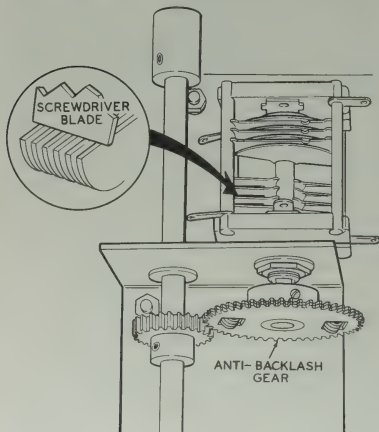

Figure 5
- () Loosen the setscrew in the small brass gear of the variable capacitor assembly. Refer to Figure 5.
- () While holding the FREQUENCY knob at the lower mechanical limit, turn the anti-backlash gear by hand until the plates of the variable capacitor are meshed. The plates are properly meshed when the edges are flush at the point shown in Figure 5. The end of a screwdriver blade can be used to check for proper mesh at this point. Retighten the setscrew in the small brass gear.